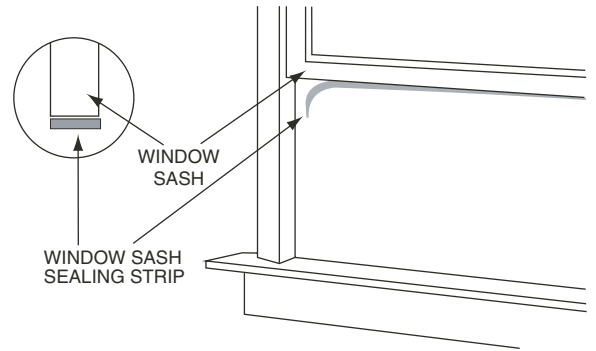

FIGURE 13 — SEALING STRIP ON BOTTOM OF WINDOW SASH
14. Cut remaining sealing strip (provided) piece to fit across the bottom of the window sash. See Fig. 13. After the leveling strip has been cut, remove the peel-off backing and stick to bottom of window. Remaining seal strip material is used in Step 22.